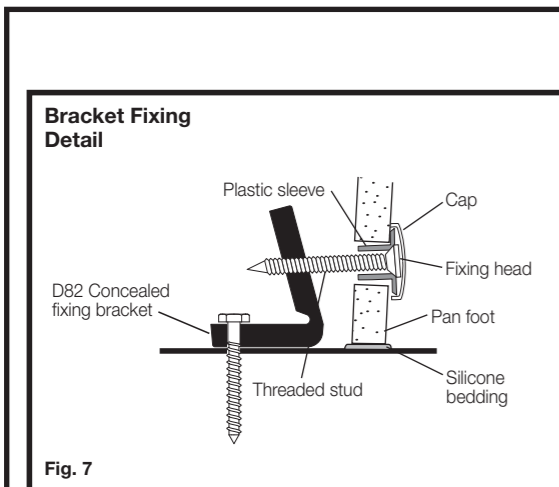

Fig. 7
- 7- Connect pan to connector and locate plastic fixing sleeve into holes in the pan. Fit screw into the bracket and tighten to bed pan to floor while ensuring level, as detailed in Fig. 7. **IMPORTANT-DO NOT OVER TIGHTEN, AS THIS MAY CRACK THE PAN FOOT.** Snap on plastic cap, as detailed in Fig. 7.